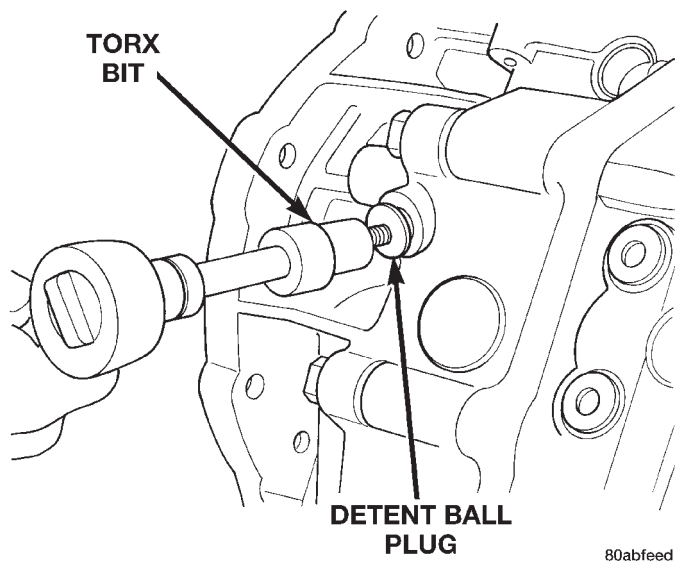

Fig. 19 Remove Detent Ball Plug
- (8) Remove detent ball plug (Fig. 19).